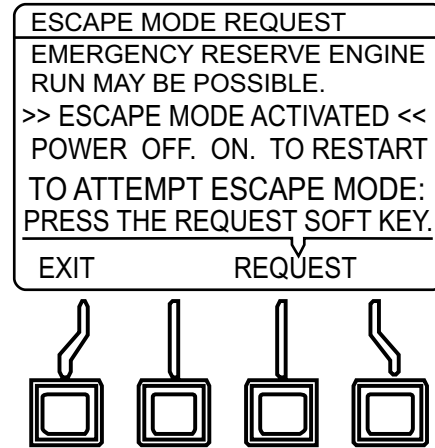

Figure 83. Escape Mode Activated Screen
7. Once the **[REQUEST]** button has been pressed, the display will indicate that escape mode has been activated (Figure 83).